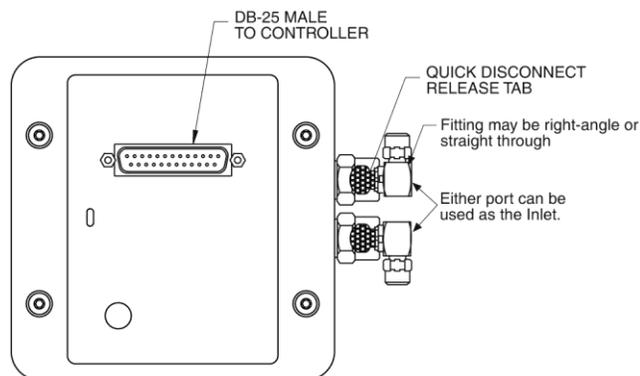

Figure 11. Coolant Ports
- c. Because of the automatic shutoffs, disconnecting the coolant supply is done by simply depressing the release tabs (Figure 11) and removing the fittings. Reconnecting the supply is done by reinserting each fitting into the appropriate valve body until you hear a click.